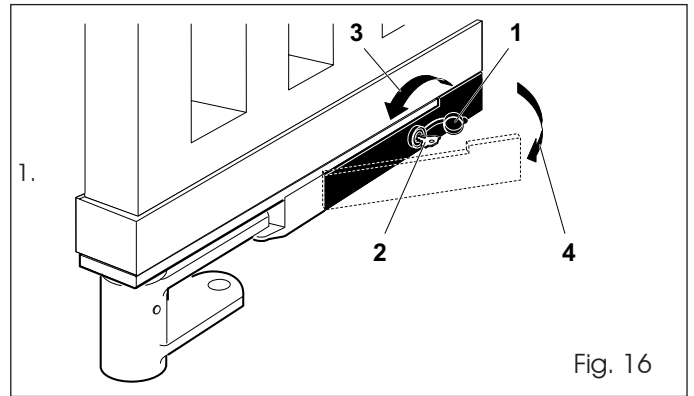

Fig. 16
2. Open the cover of the lock (Fig. 16 - Ref. 1)
3. Insert the release key in the lock (Fig. 16 - Ref. 2).
4. Turn the key in the direction of the post, as far as it will go (Fig. 16 - Ref. 3).
5. Pull the lever out (Fig. 16 - Ref. 4).